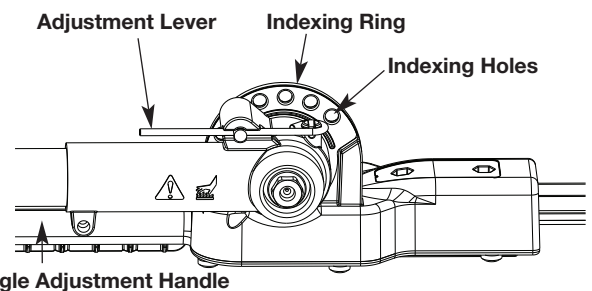

Fig. 4
1. Grasp the adjustment lever (Fig. 4) and push to unseat the push pin from the hole in the indexing ring.